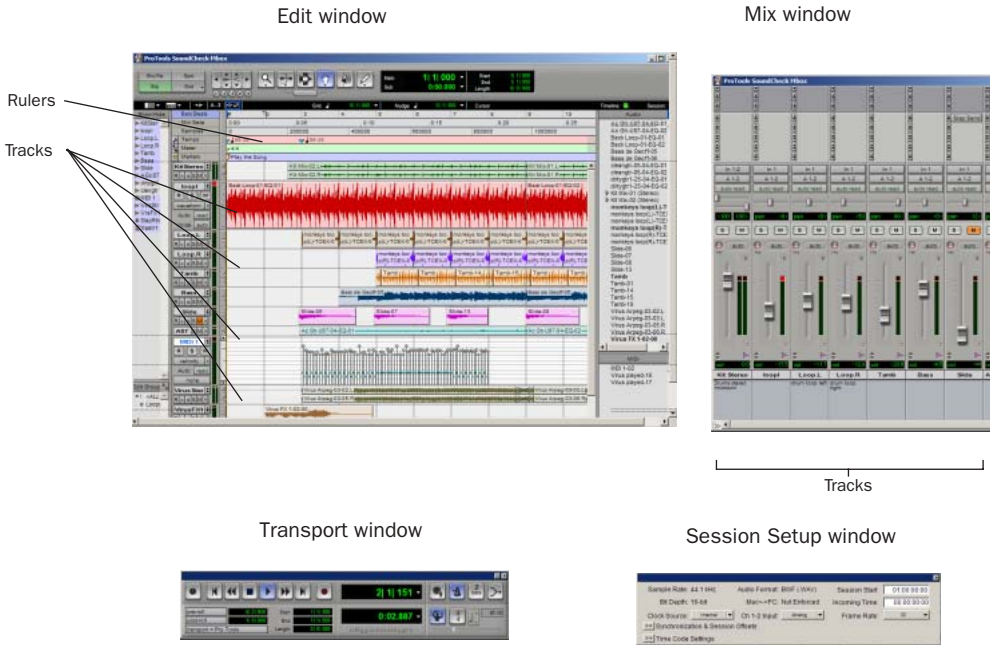

Figure 3. Main session windows
- 6 Choose Save. The new session opens its Mix, Edit, and Transport windows (see Figure 3 on page 56).